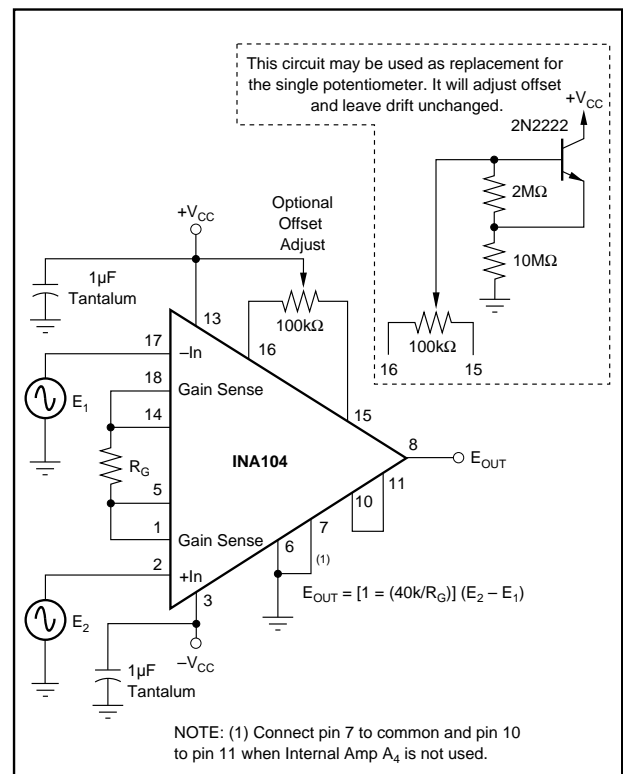
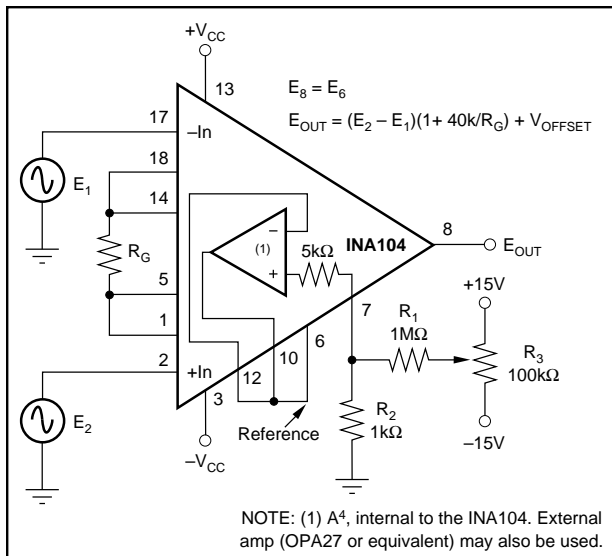
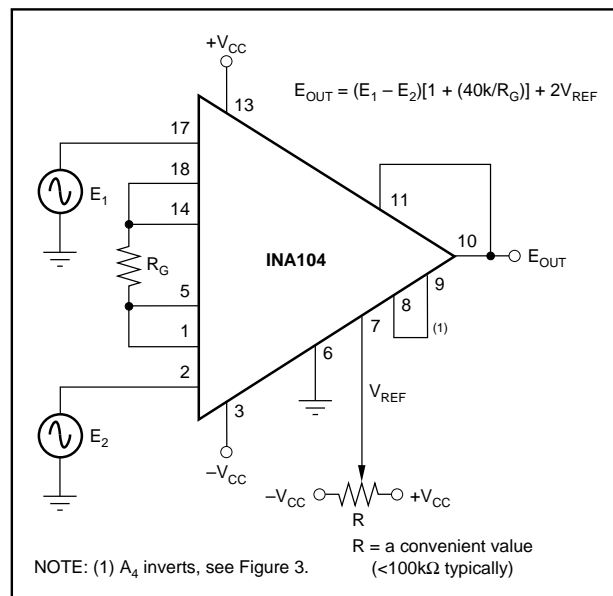

FIGURE 1. Basic Connection for the INA104 Including Optional Input Offset Null Potentiometer.
FIGURE 2. Optional Output Offset Nulling or Offsetting Using an Amplifier (Low Impedance to Pin 6).
FIGURE 4. Output Offsetting.
At T_A = +25°C, V_S = ±15V power supply and in circuit of Figure 1 unless otherwise noted.
At $T_A = +25^\circ\text{C}$, $V_{CC} = 15\text{V}$, and in circuit of Figure 1, unless otherwise specified.
Figure 1 shows the simplest configuration of the INA104. The gain is set by the external resistor, R_G , with a gain equation of $G = 1 + (40k/R_G)$. The accuracy and TCR of R_G contribute directly to the gain accuracy and drift.
Pins 1, 5, 14, and 18 are accessible so that a four-terminal connection can be made to R_G . (Pins 1 and 18 are the voltage sense terminals, since no signal current flows into the operational amplifiers' inputs.) This is useful at high gains, where the value of R_G is small. The optional offset adjust capability is shown in Figure 1. The adjustment affects only the input stage component of the offset voltage. Thus, the null condition will be disturbed (if input offset is not adjusted to zero) when the gain is changed. Also, the input drift will be affected by approximately 0.31 μ V/ $^{\circ}$ C per 100 μ V of input offset voltage that is trimmed. Therefore, care should be taken when considering use of the control for removal of other sources of offset.
It is frequently desirable to null the input component of offset (Figure 1) and occasionally that of the output (Figure 2). The quality of the potentiometer will affect the results, therefore, choose one with good temperature and mechanical-resistance stability. The procedure is as follows:
3. Adjust the 100kΩ potentiometer in Figure 1 until the output reads $0V \pm 1mV$ or desired setting. Note that the offset will change when the gain is changed.
4. If the output component of offset is to be removed or if it is desired to establish an intentional offset, adjust the 100kΩ potentiometer in Figure 2 until the output reads $0V \pm 1mV$ or desired setting. Note that the offset will not change with gain, but be sure to use a stable amplifier with good DC characteristics. The range of adjustment is $\pm 15mV$ as shown. For larger ranges, change the ratio of R_1 to R_2 . The op amp is used to maintain a low resistance ($<0.1\Omega$) from pin 6 to Common to avoid CMR degradation.
The basic circuit connection for the INA104 is shown in Figure 1. The output voltage is a function of the differential input voltage times the gain. Figure 1 does not include additional internal op amp A₄. Power supply bypassing with a 1μF tantalum capacitor or equivalent is always recommended.
Output offsetting (“zero suppression” or “zero elevation”) may be more easily accomplished with the INA104 than with most other IC instrumentation amplifiers as shown in Figure 4. The use of the extra internal op amp, A₄, means that CMR of the instrumentation amp is not disturbed, and that a convenient value of variable resistor can be used. The circuit shown in Figure 2 can also be used to achieve the desired offsetting by scaling the resistors R_1 and R_2 . A low impedance path from pin 6 to Common should be provided to achieve the high CMR specified. Resistance above 0.1Ω will cause the CMR to fall below 106dB.